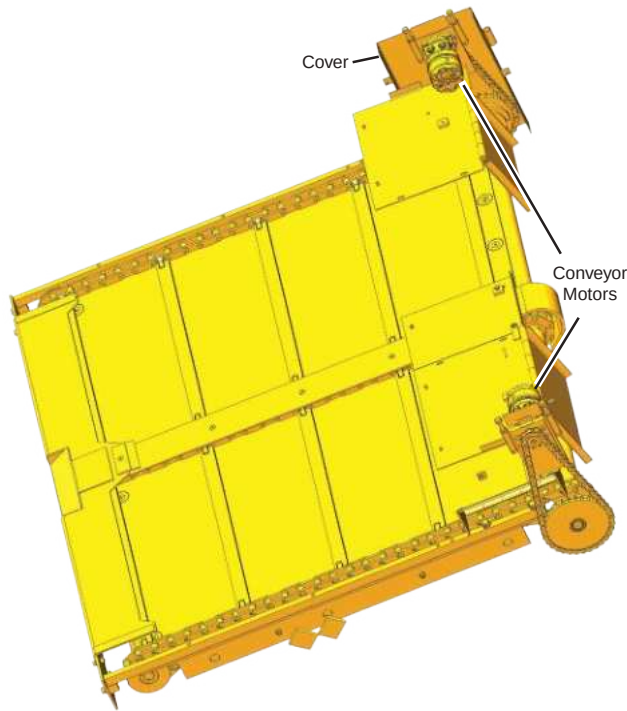

Figure 5-29. Conveyor Motors
2. Remove four bolts holding hydraulic motor to slide mount. **(Figure 5-29)**